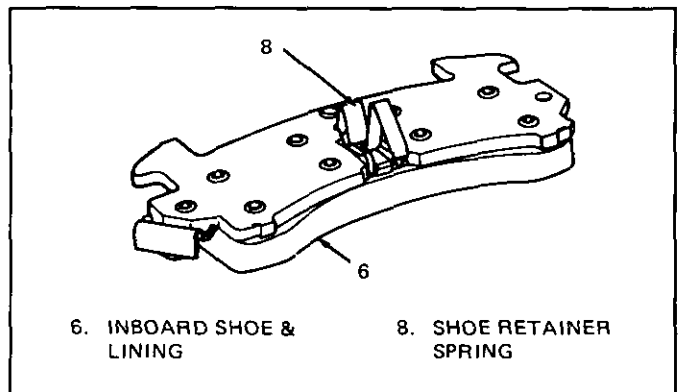

Figure 7 Inboard Shoe and Retainer
- New sleeves (2) in mounting bolt holes
2. Retainer spring (8) on inboard shoe (6) as shown in Figure 7